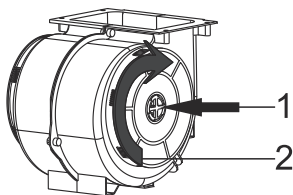

Fig. 6: CARBON FILTER
- 1-Place the carbon filter in its housing. Fig. 6
- 2-Rotate the carbon filter clockwise and make sure that it is seated completely. Fig. 6